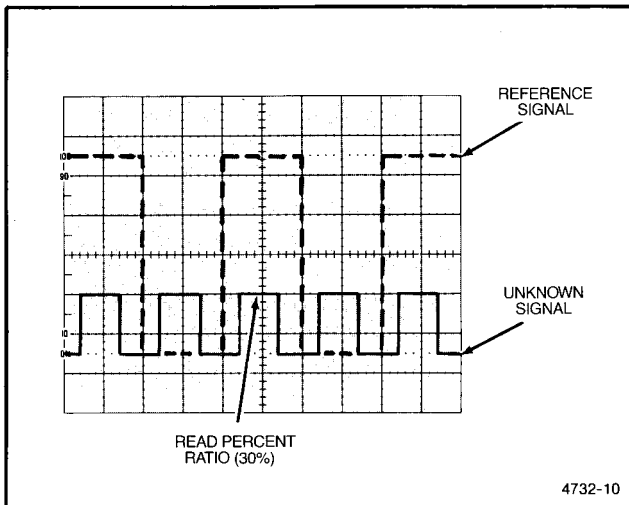

Figure 3-4. Determining voltage ratio.
4. Horizontally position the waveform so that its top-most features cross the center vertical graticule line (see Figure 3-4).